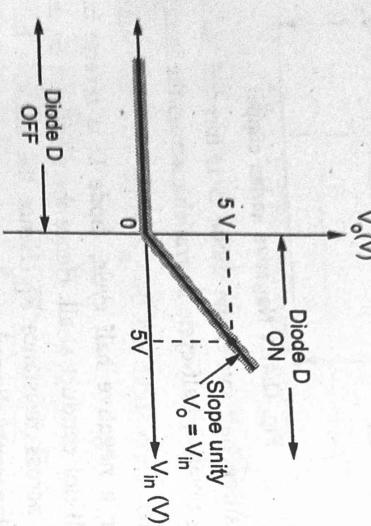

Fig. Q42.3 Transfer characteristics
- The graph showing the transfer characteristics is shown in the Fig. Q42.3.